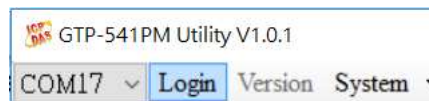
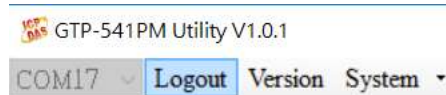

Figure 6.10.2
Figure 6.10.3
B.Click “Login” on the Utility screen. As shown in Figure 6.10.2, if the connection is successful, the “Login” button will change to “Logout”, as shown in Figure 6.10.3